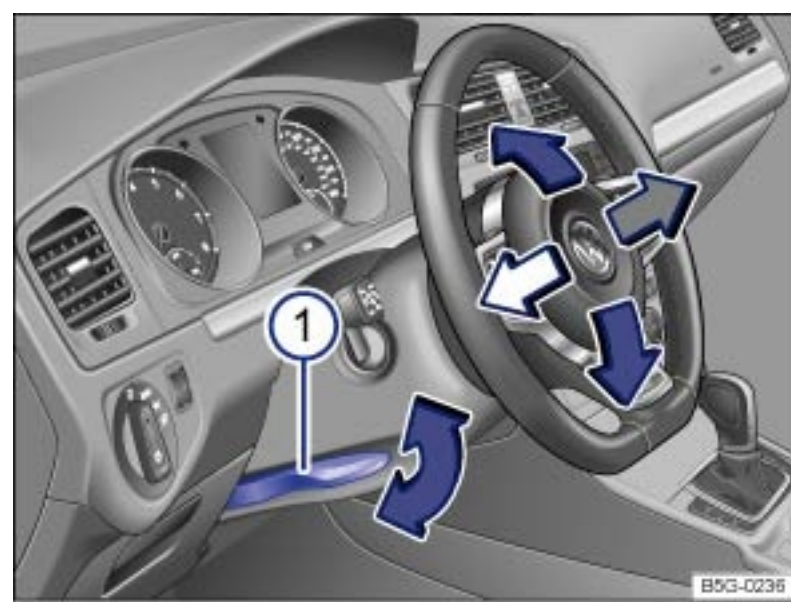

Fig. 47 Manual adjustment for the steering wheel position.
- Push down on the lever → Fig. 47 ① .
- Always pull the lever → Fig. 47 ① firmly upward after adjusting the steering column so that the steering wheel does not change position suddenly while the vehicle is moving.